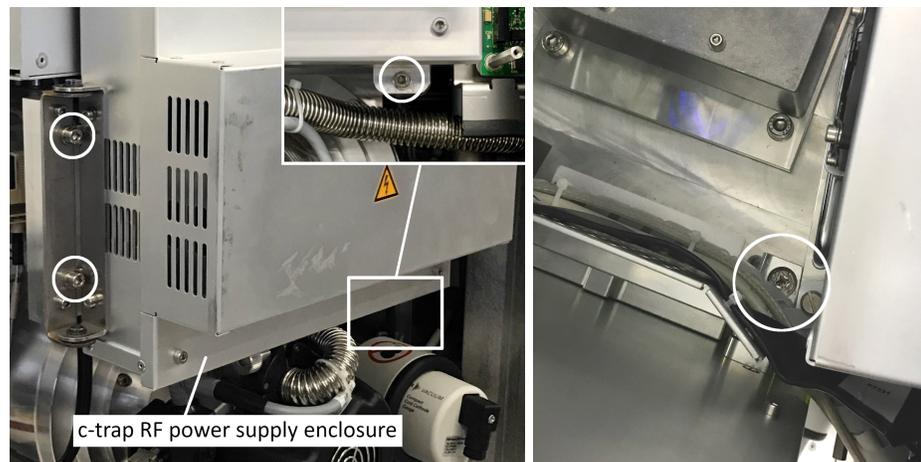

Figure 25. C-Trap RF power supply enclosure screws, front (left) and rear (right).
3. Use a 4 mm hex key to remove the three screws from the hinge and bottom right corner of the C-Trap RF power supply enclosure (**Figure 25**).